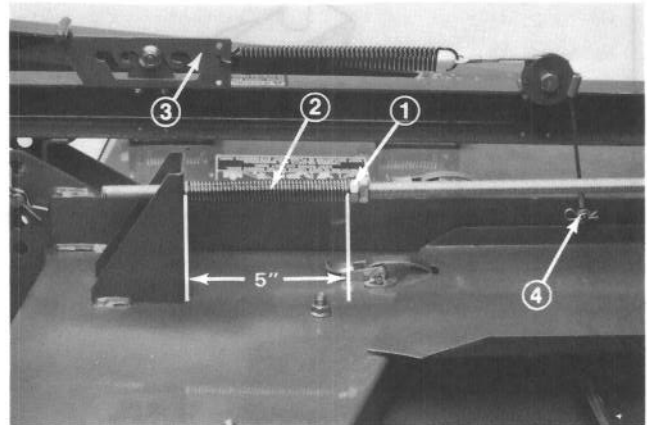

**Figure 4**
2. Thread two (2) jam nuts on each adjusting shaft approximately 9 in. (Fig. 4).
4. Insert spring end of adjusting shaft into hole in deck mounting bracket and other end into carrier frame mounting tab. Small end of bushing fits into hole in deck bracket (Fig. 4).
5. To tension belt, tighten front jam nut on each adjusting shaft until springs are compressed to 5 in. Measure between washer and bushing (Fig. 4). Secure rear jam nuts.